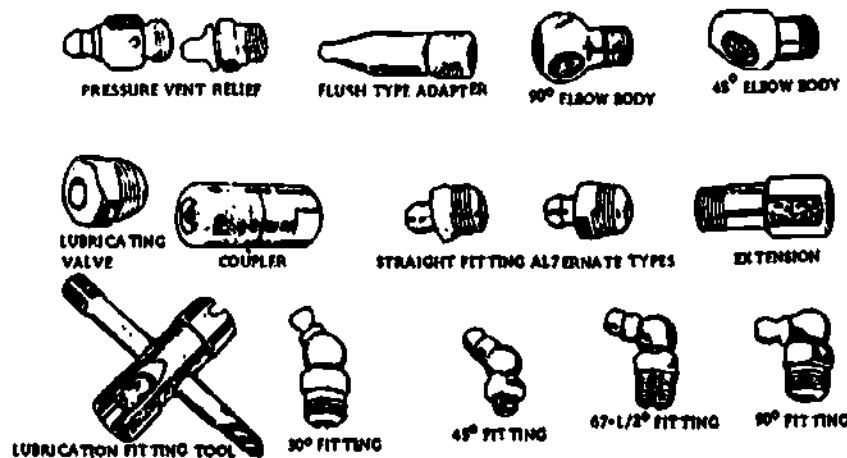

Fig 3-10. Grease fittings.
Grease fittings (fig 3-10). Grease fittings are provided to those components requiring lubrication. These fittings screw directly into the component or into an adapter such as an elbow or an extension which connects the fittings to the component. The locations of all fittings are shown on the lubrication chart (LO) for each vehicle.